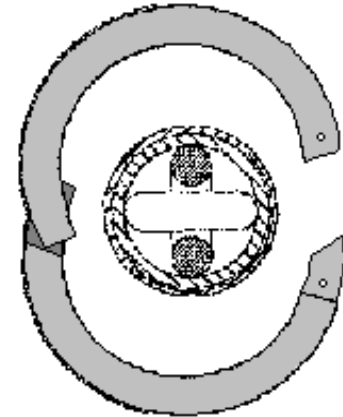

Fig. 1 Brass ring insert
- Place brass ring insert around compensating cable. **See Fig.1.** Compensating cable must have round shape/cross section. SwayLess device is not designed for bare chain.